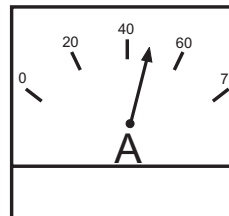

Figure 40. Ammeter (Load)
21. Look at the generator's ammeter (Figure 40) and verify that it reads the anticipated amount of current with respect to the load. Remember the ammeter will only display a current reading if the load is in use.